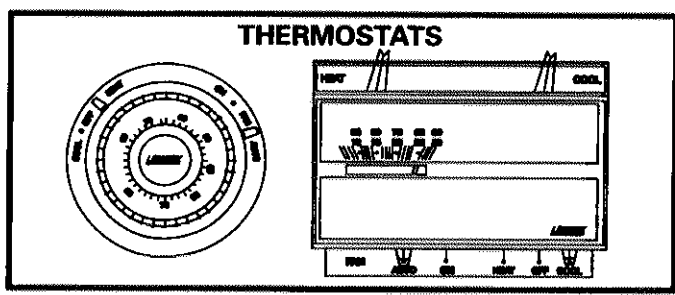

FIGURE 1
- 2 – Set thermostat to lowest setting. See figure 1.